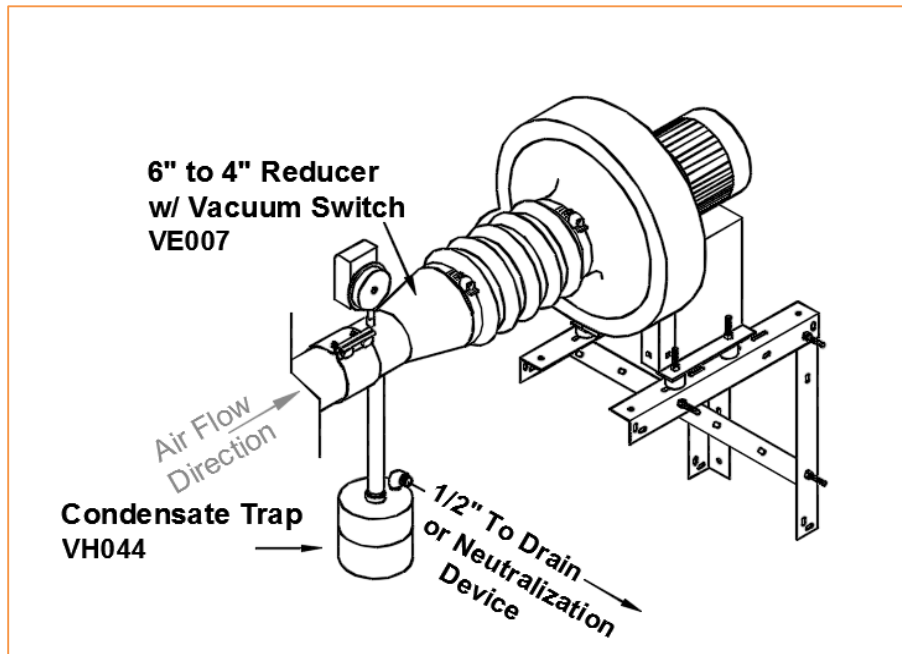

Figure 36: Condensate Drain Detail – Optional
4. Where condensing designs are specified, a Condensate Drain may be installed as shown in Figure 36. Ensure connection to Drainpipe is flexible to allow for system movement/expansion during operation, and that an appropriate Neutralization Device is installed as required.